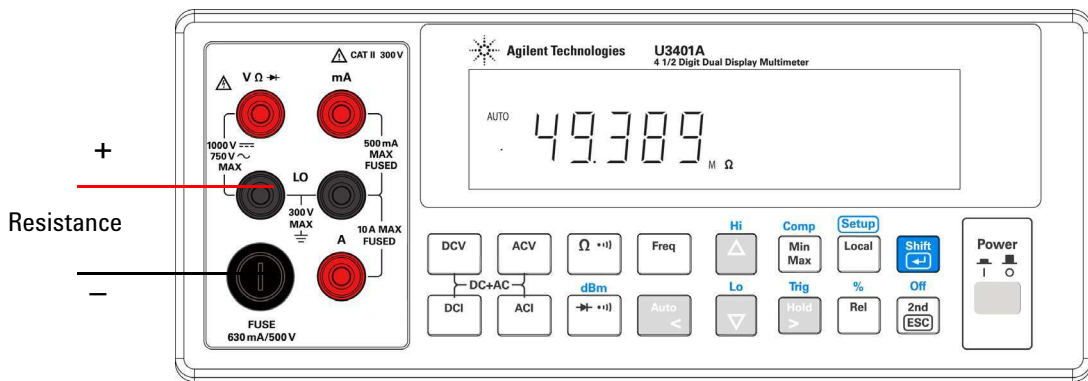

Figure 3-4 Connection terminal when measuring Resistance
- 1 Connect a resistor under test to $V \Omega \rightarrow$ and LO input terminals as shown in Figure 3-4.